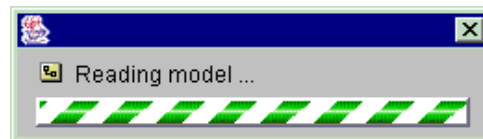

Figure 124 : Bar graph during model reading
- ◆ A bar graph **Reading model** (Figure 124) is displayed: